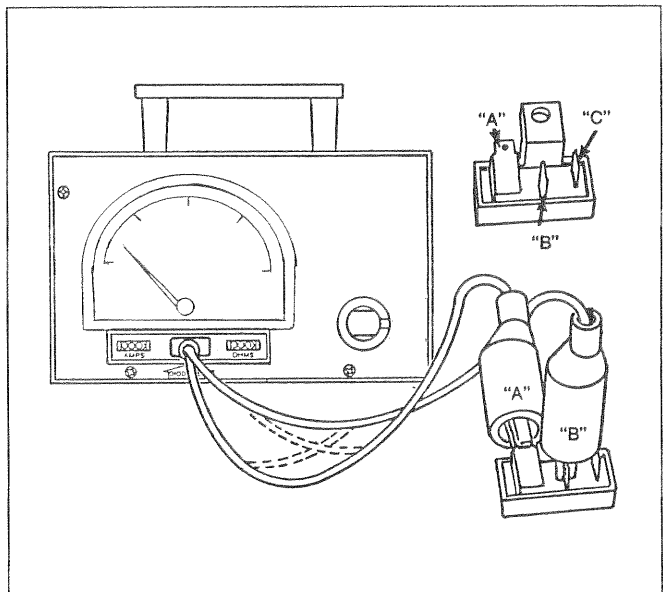

Figure 193. Testing the ISD Module
- See Figure 193. Attach the VOM's positive (+) test lead to test point "A". Attach the common (-) VOM test lead to test point "B".